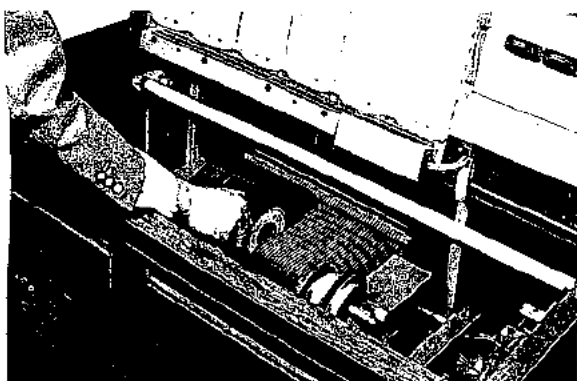

Fig. 3
13. Insert records into record magazine (figure 3) in the order of the title strips, the upper lettering of the magazine marking to the left. Move carriage by pushing it by hand to any desired position.